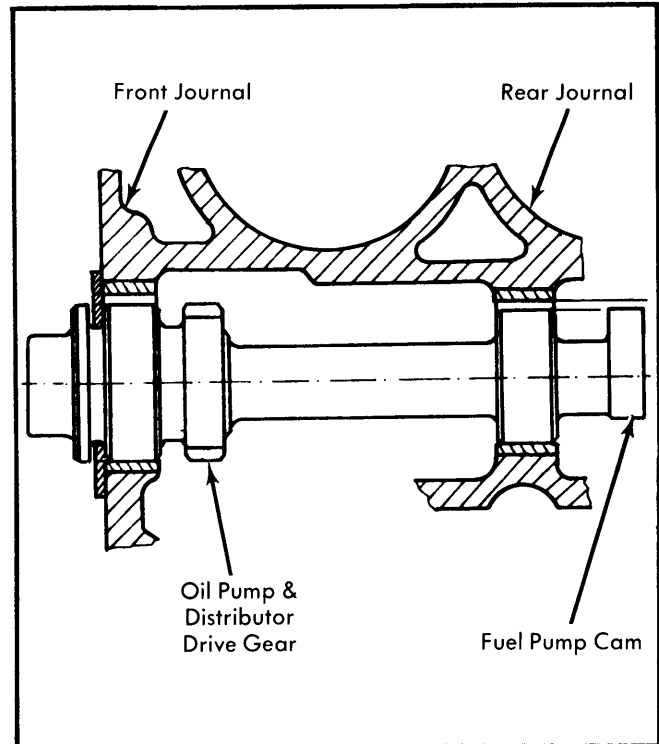

Fig. 11 Ancillary Drive Shaft Components
1) Using installing-removing tool (88012455), drive off crankcase-mounted bearings of ancillary drive shaft. See Fig. 11. Tool features a front end divided in two sections of different diameters to match each bearing's inner diameter.